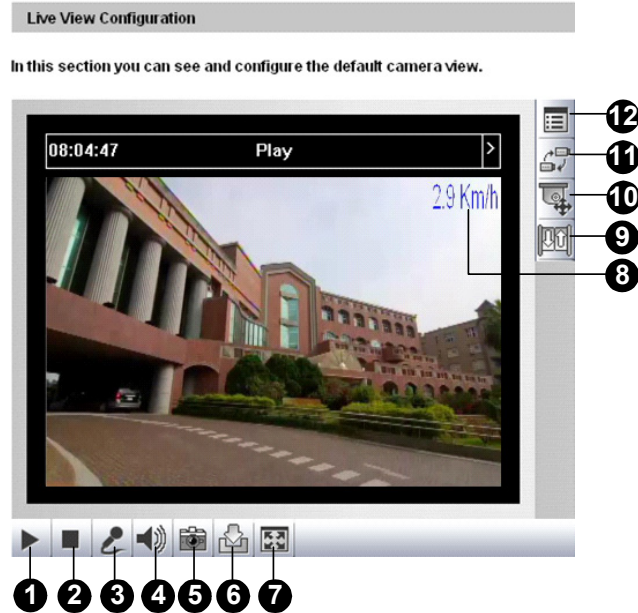

Figure 5-6
1. Click the **Snapshot** button (No. 5, Figure 5-6). The Save As dialog box appears.
1. Click the **File Save** button (No. 6, Figure 5-6). The Save As dialog box appears.
4. To stop recording, click the **Stop** button (No. 2, Figure 5-6).
To configure this function, click the **Show System Menu** button (No. 12, Figure 5-6), and select **Alarm Notify**. This dialog box appears.
You can enable the microphone and speaker for two-way audio communication and adjust the audio volume. To change audio configuration, click the **Show System Menu** button (No. 12, Figure 5-6), and select the **Audio Configure** tab.
You can view the connection status of the central monitoring stations and upgrade firmware over the network. Click the **Show System Menu** button (No. 12, Figure 5-6), and select **Remote Config**. The Remote Config dialog box will appear.
To display the camera name on the image, click the **Show System Menu** button (No. 12, Figure 5-6), and select **Show Camera Name**.
To enhance the image quality of live video, click the **Show System Menu** button (No. 12, Figure 5-6), and select **Image Enhance**. This dialog box appears.
To open the PTZ control panel, click the **PTZ Control** button (No. 10, Figure 5-6) and select **PTZ Control Panel**. The features included in the **Option** button may vary depended on different PTZ devices.
- To access this feature, click the **PTZ Control** button (No. 10, Figure 5-6) and select **Visual PTZ**.